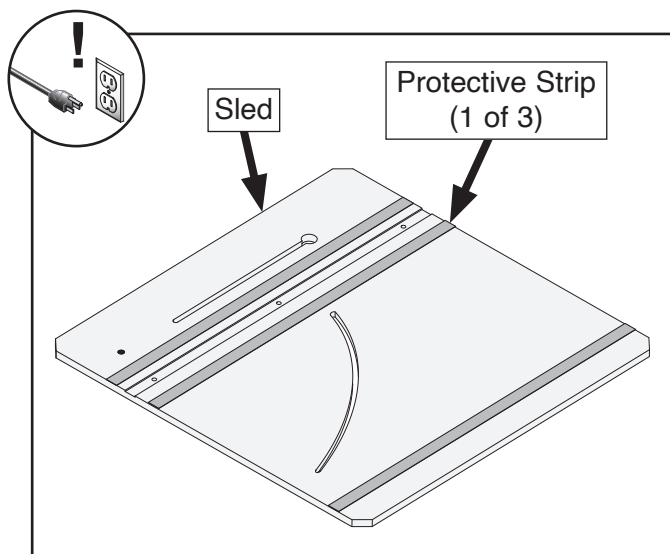

Figure 3. Protective strips affixed to sled.
3. Remove backing from (3) protective strips and affix them to underside of sled at locations shown in **Figure 3**.